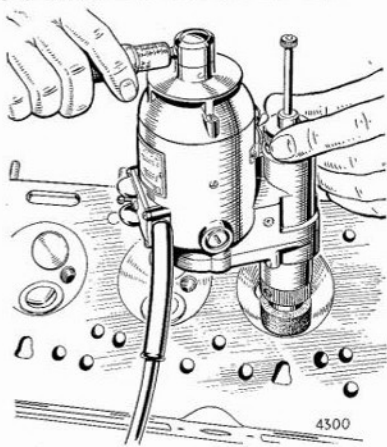
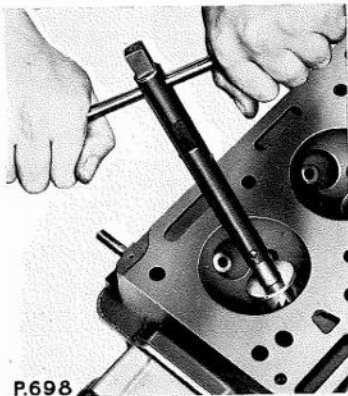

Fig. B.80. Re-grinding the cylinder head valve seatings, using the Hall Eccentric Valve Seat Grinder
Fig. B.81. Re-cutting the cylinder head valve seatings, using the Churchill Tool 316X and the cutter set 317
2. To Re-grind. The valve seats in the cylinder head should be re-ground accurately using preferably the Hall Eccentric Valve Seat Grinder, as shown in Fig. B.80, or alternatively, the Churchill Valve Seat Cutters, comprising a Main Tool 316X [Pilot 316-11] and a Cutter Set 317 [317-25 (45° Cutter), and 317G-25 (Glaze Breaker)], may be used as shown in Fig. B.81.
Turn the feed adjusting screw until the grinding wheel just clears the valve seating and then balance the grinder by means of the compensating handle (see Fig. B.80).